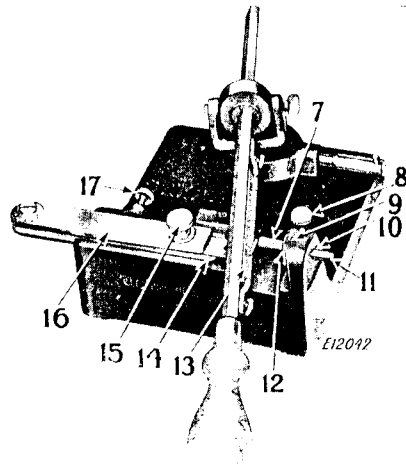

Fig. 31. Knife Hone 259283 with Knife in Position Ready to Sharpen
For 30° cutting angle knives the lower knife stop pin (7, Fig. 31) should be set flush with the outside surface of the casting (10, Fig. 31) so that the pin extends to the left toward the knife holder slide. Larger cutting angles may be obtained by moving the knife stop pin (7, Fig. 31) to the right. When flush with the inside surface of the casting (12, Fig. 31), the cutting angle will be honed to 45°.
The knife stop pin (11, Fig. 31) not being used should be set as far as possible to the right, then tighten screws (8 and 9, Fig. 31).
Clamp knife into position on knife holder (14, Fig. 31) and tighten thumb screw (15, Fig. 31), slide holder (16, Fig. 31) into position on base until knife rests against the stop pin (7, Fig. 31), tighten knife holder set screw (17, Fig. 31), place hone (13) in position as illustrated in Fig. 31 and proceed to hone knife. Care should be taken not to press down too heavily on the knife.